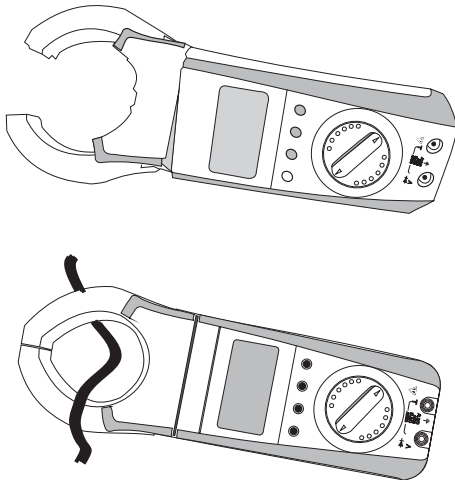

Figure 9.1
- Connect the Clamp as shown in figure 9.1 for current measurement. To measure current through cable push the trigger (present at back) to open the jaws and clamp the jaws around the cable as shown in fig 9.1